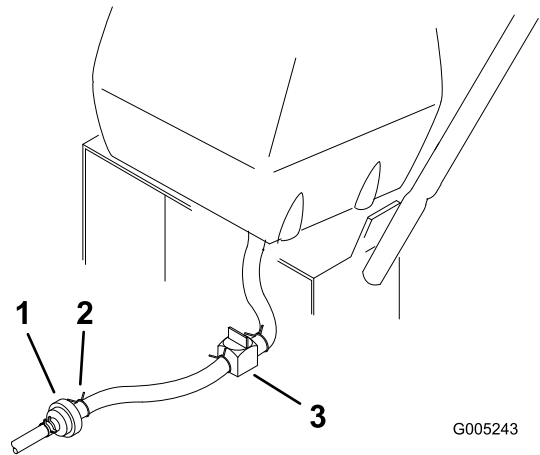

Figure 31
3. Close the fuel-shutoff valve at the fuel tank (Figure 31).
4. Squeeze the ends of the hose clamp together and slide it up the fuel line away from the fuel filter (Figure 31).
5. Pull the fuel line off the fuel filter (Figure 31).
7. Open the fuel-shutoff valve at the fuel tank (Figure 31).